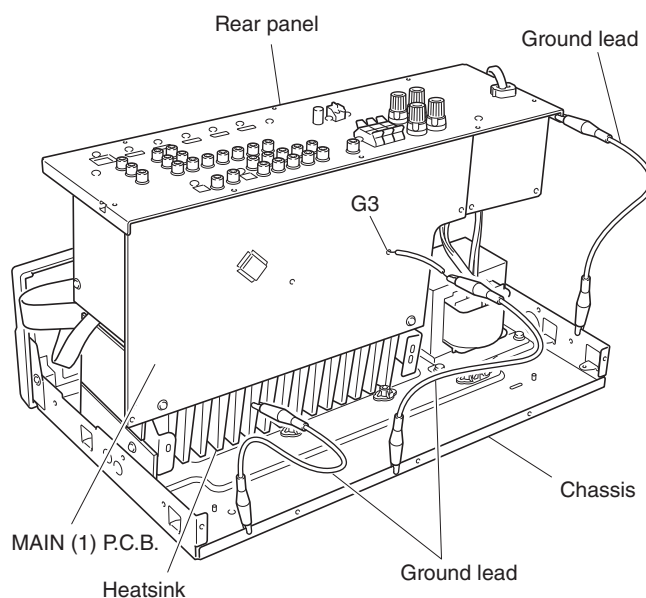

Fig. 6
- Place the P.C.B.s (with rear panel) upright. (Fig. 6)
- Connect the heatsink, rear panel and MAIN (1) P.C.B. (G3) to the chassis with a ground lead or the like. (Fig. 6)